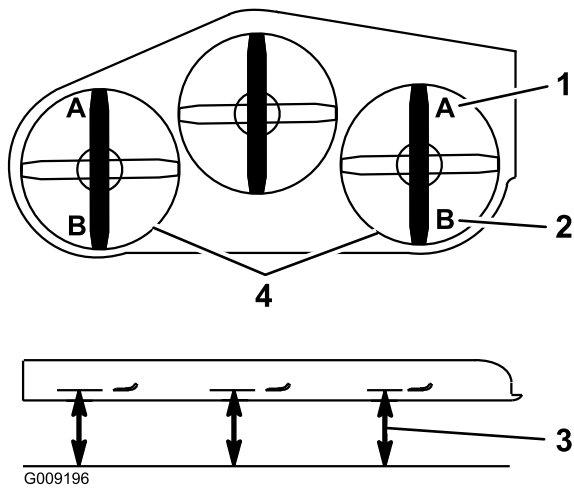

Figure 114
9. On both sides of the deck, measure from the level surface to the front tip of the blade (Position A) as shown in Figure 114.
15. On both sides of the deck, measure from the level surface to the back tip of the blade (position B) as shown in Figure 114.